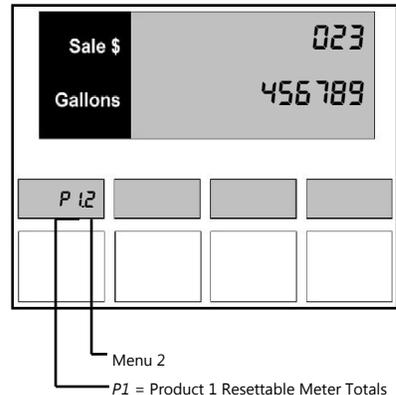

Figure 2.1 – Electro-Mechanical Total
- a. The main display shows the electro-mechanical total as shown in *Figure 2.1*.